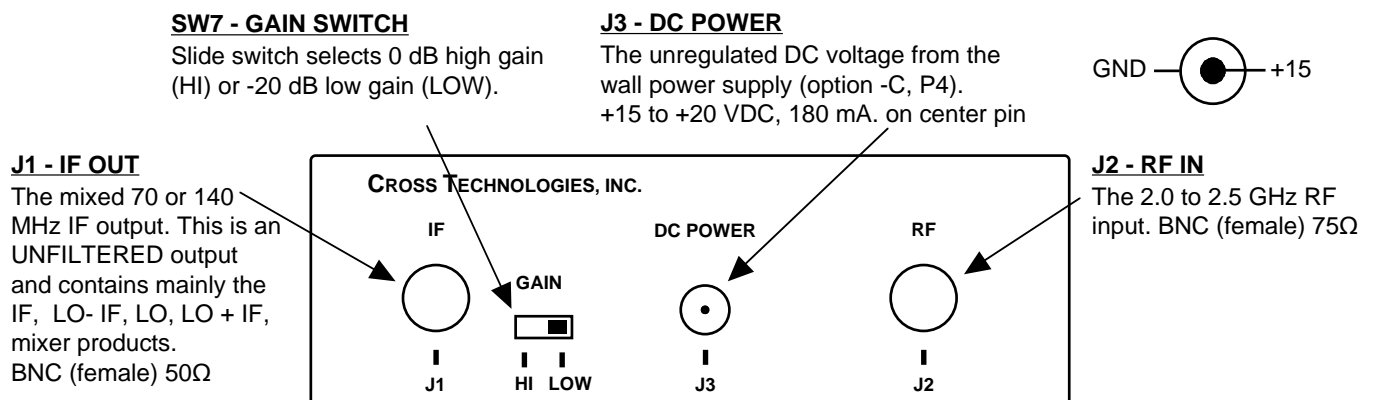

FIGURE 2.2 2005-22 Rear Panel Inputs and Outputs
2.3 Rear Panel Input/Output Signals - Figure 2.2 shows the input and output signals to the 2005-22.
1. If using the receiver LNB voltage to power the 2005-22, be sure +15 to +20 VDC is on the RF center conductor. If using the wall power supply (**options -C or -P4**), connect the power supply to the DC POWER connector and either 120 VAC (-C) or 100-240 $\pm 10\%$ VAC (-P4) (Figure 2.2).
3. Select either HI or LOW GAIN using the switch (SW7) on the rear panel (Figure 2.2).
4. Connect a -10 dBm max RF signal to RF In, J2 (Figure 2.2).
5. Connect the IF Out, J1, to the modulator under test (Figure 2.2).
2.5.4 Selecting the Gain - The gain of the 2005 can be selected for +0 dBm (HI gain) or -20 dBm (LOW gain) with SW7 on the rear panel (see Figure 2.2).